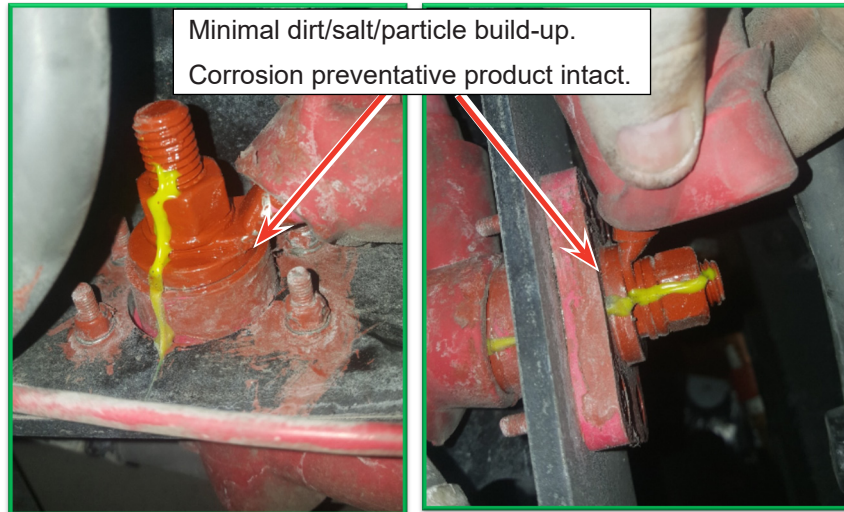
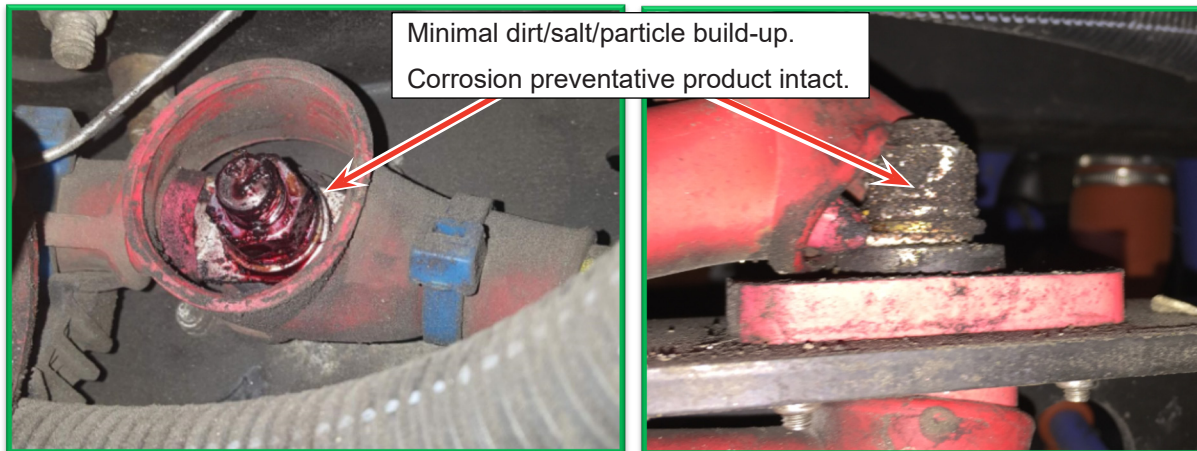

Figure 5 - No Maintenance for Junction Blocks with **DOLPH ER-41/EB-41** Corrosion Preventative Product
Figure 6 - No Maintenance for Junction Blocks with **NOCO NCP-2** Corrosion Preventative Product
- a. **No maintenance recommended:** No maintenance is required, if the junction block is found with minimal build-up of road dirt, salt and particles and with corrosion preventative product intact (see Figure 5 & Figure 6).